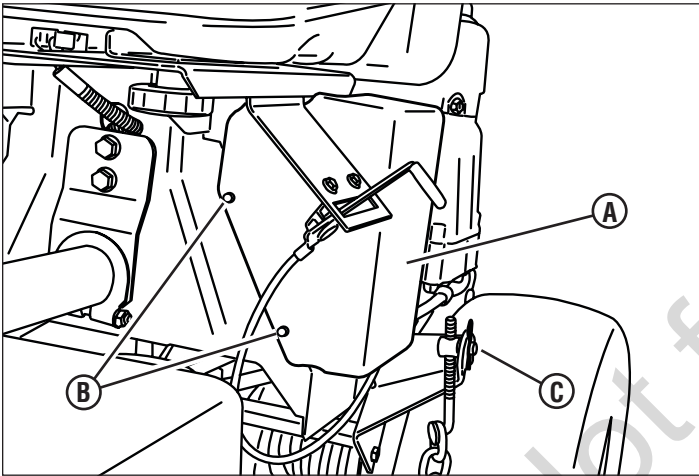

Figure 16
- A. Remove the battery cover (A, Figure 16) by pulling each side away from the ratchet fasteners (B).